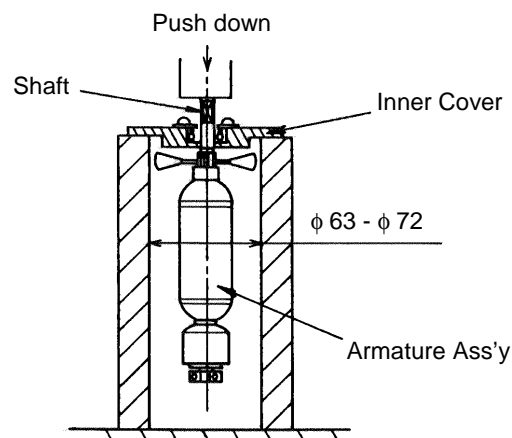

Fig. 1
- (1) Remove the Brush Cap ③④, and take out the Carbon Brush ③③.
- (2) Loosen the four M5 x 25 ⊕-Hd. Tapping Screws ⑦, and remove the Nose Bracket Ass'y ⑨. Separate Inner Cover (B) ⑱ from the Housing Ass'y ④⑥ with a screwdriver, and remove Inner Cover (B) ⑱ together with the Armature Ass'y ⑳.
- (3) As illustrated in Fig. 1, support Inner Cover (B) ⑱ with a tubular jig with an inner diameter large enough (63 mm) to accept the Armature Ass'y ⑳, and push down on the end of the Armature Ass'y shaft with a hand press to remove the Armature Ass'y ⑳.